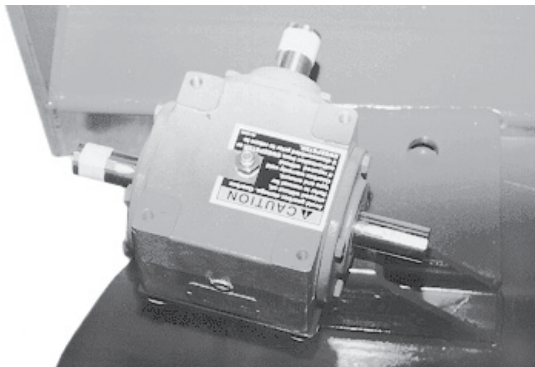

figure 4
4. Reinstall the gearbox (figure 4). The vent plug must be on top of the gearbox.